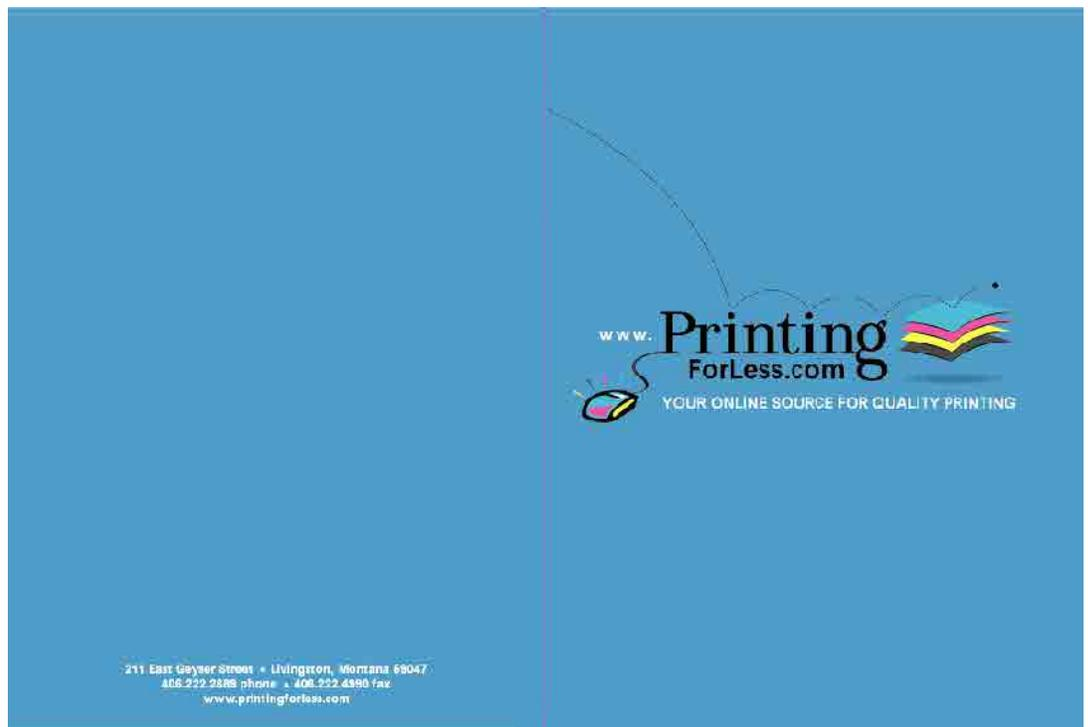

Figure 7
- When you are done laying out your artwork, move the template to the top layer. The template contains knockouts for the areas that cannot have ink. These areas are necessary for the glue to stick (see figure 7)